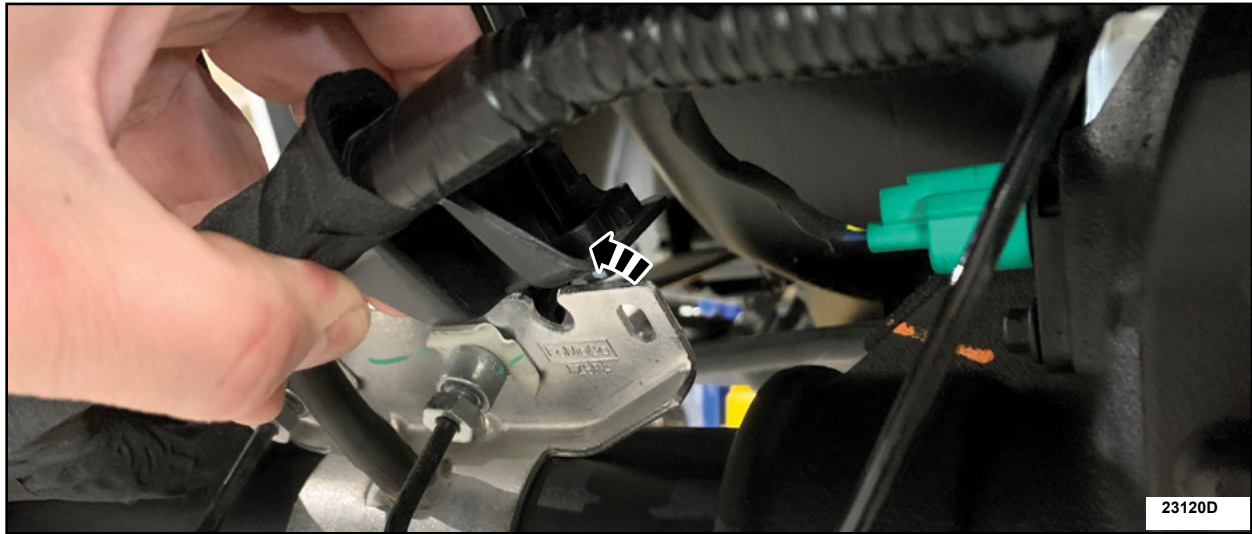

FIGURE 5
5. Remove the inboard end of the shield from the metal bracket. See Figure 5.